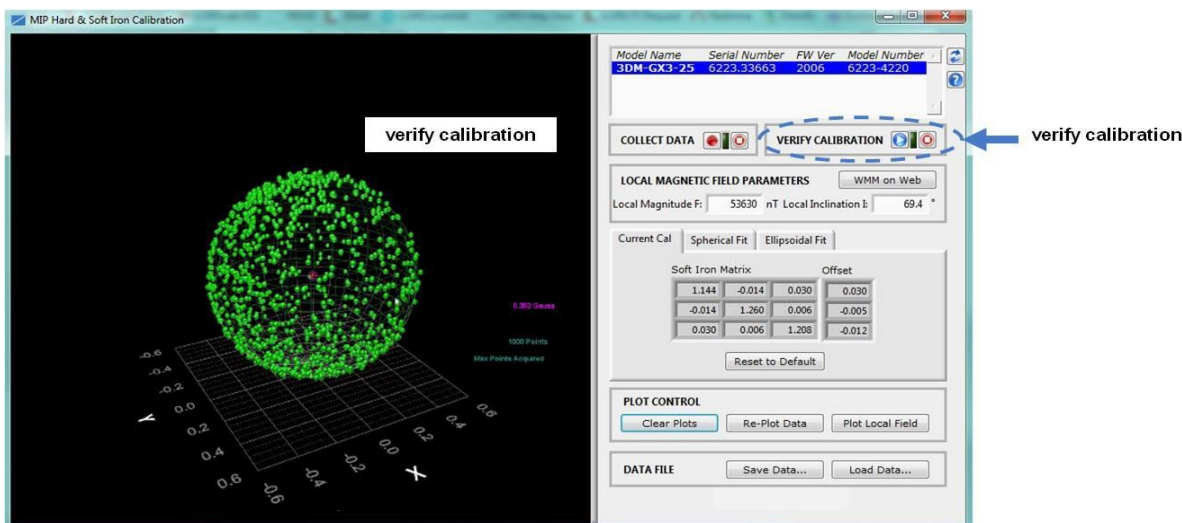

Figure 26 - Verify Calibration
9. Start a calibration verification by clicking the Start Streaming Data button next to Verify Calibration (Figure 26 - Verify Calibration). Rotate the device in all orientations in the same way as during calibration. When completed click the Stop Streaming Data button next to Verify Calibration. The resulting data points should be on or near the spherical grid. Hold the left mouse button and drag to rotate the image. The mouse wheel can be used to zoom in and out. If the fit is not close, the sensor may require re-calibration. If it is close, as shown, calibration and verification is complete.